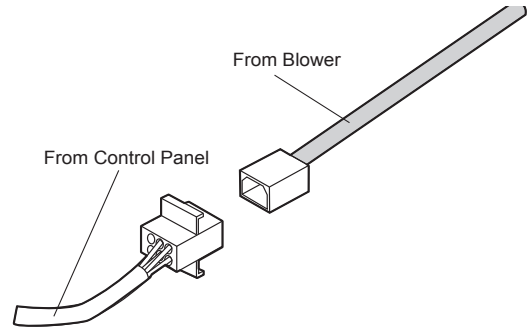

Figure 25: Wiring the Hood with an Integral Blower
4. Connect the blower's Molex plug connector to the connector present inside the hood, as shown in *Figure 25*.